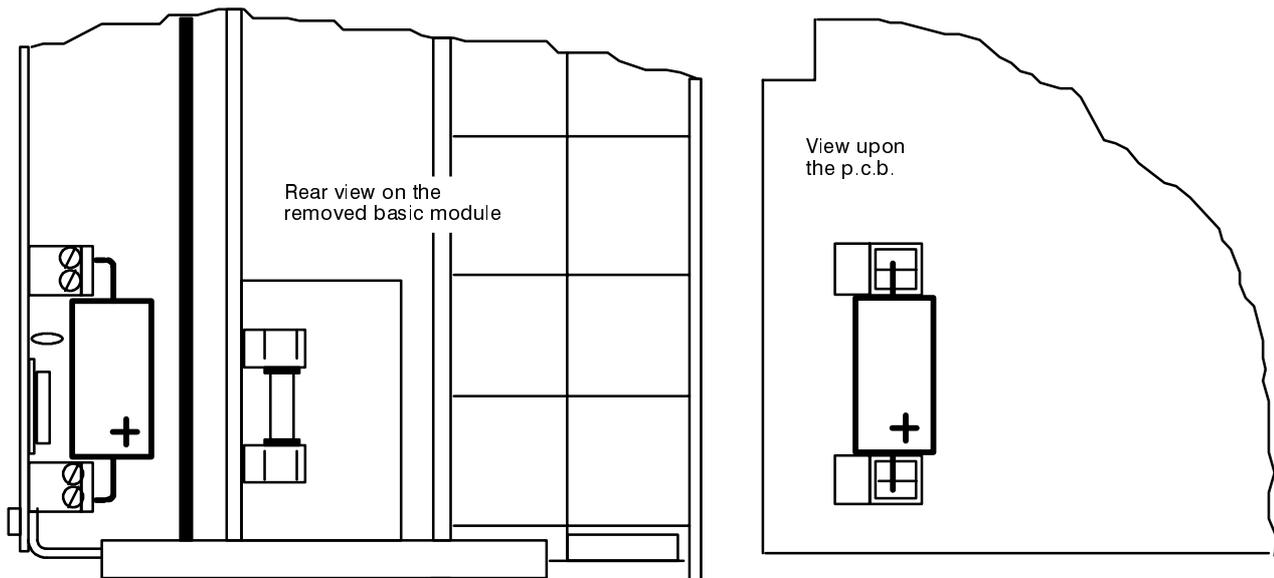
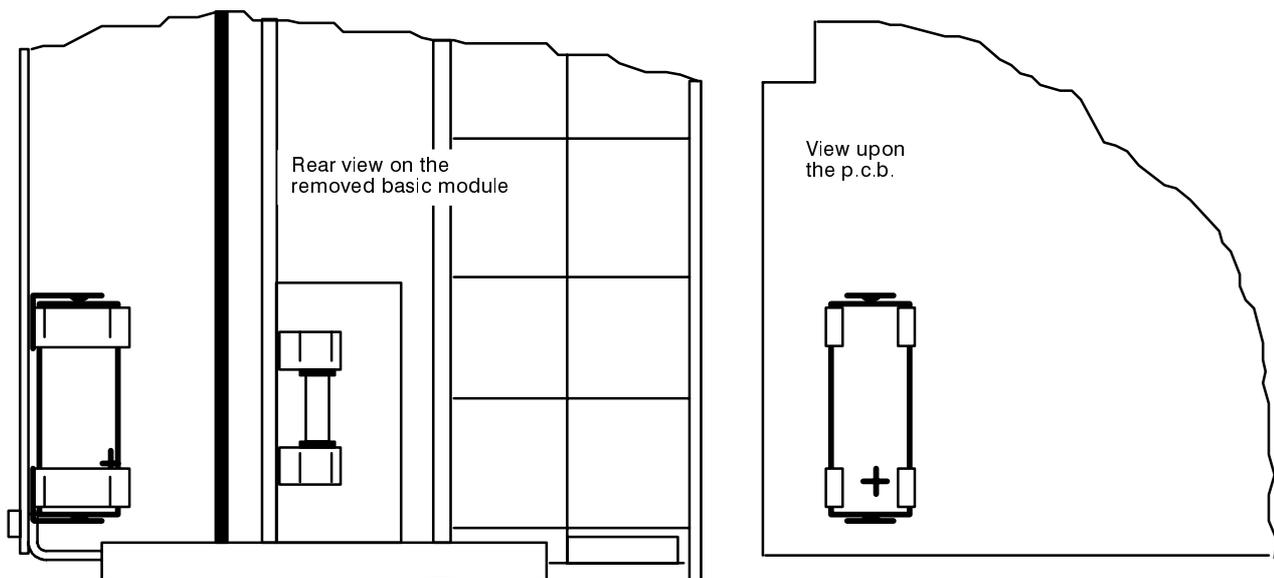

Figure 7.2 Installation of the back-up battery for relays with screwed battery terminals
Figure 7.3 Installation of the back-up battery for relays with snap-on battery holder
- Insert the prepared battery into the terminals or holder as in Figure 7.2 and tighten the screws or as in Figure 7.3.